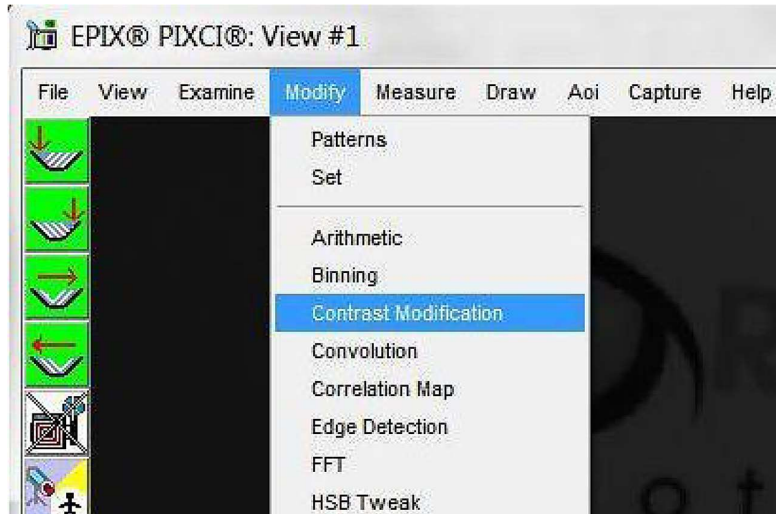

Figure 13: Contrast Modification
1. Go to the Modify/Contrast Modification menu, Figure 13.